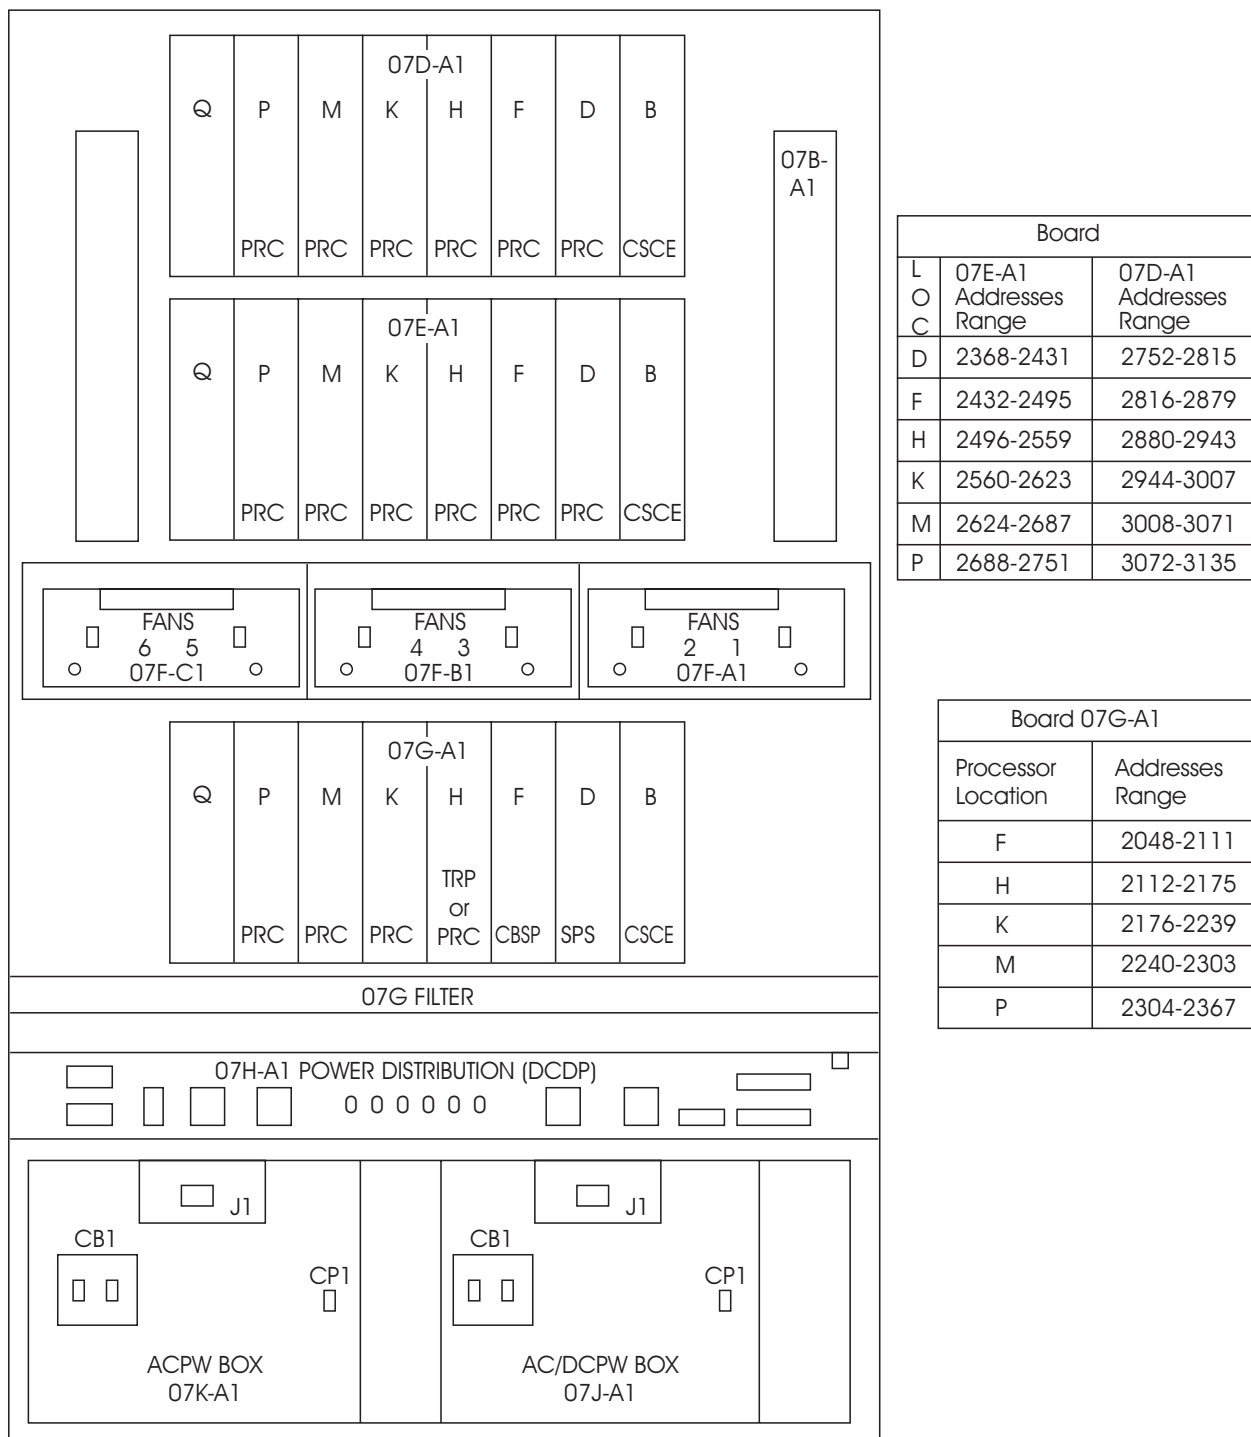

Figure 4-9. 3746-900 Front Side
1. Locate the air filter **1** at the front of the machine using Figure 4-9 on page 4-8.
1. Locate the ACPW that you have to exchange using Figure 4-9 on page 4-8.